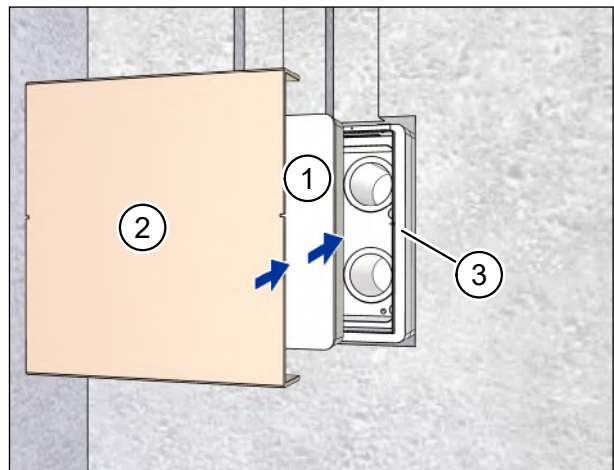

Fig. 22: Inserting the protective cover and plaster cover
- ▶ Insert the protective cover (item 1 in Fig. 22) into the wall box (item 3 in Fig. 22).
- ▶ Insert the plaster cover (item 2 in Fig. 22) into the wall box (item 3 in Fig. 22) as far as it will go.